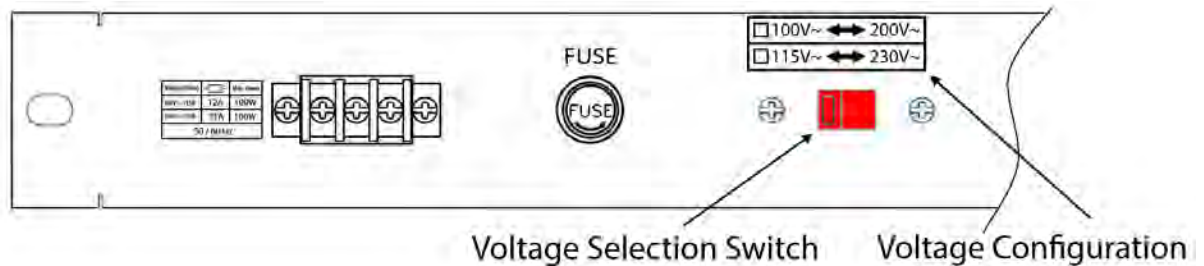

Figure 5-2: AC Input Voltage Selection
2. Refer the drawing on the rear panel of 5P Series load in Figure 5-2, set the switches to the proper voltage as indicated below.